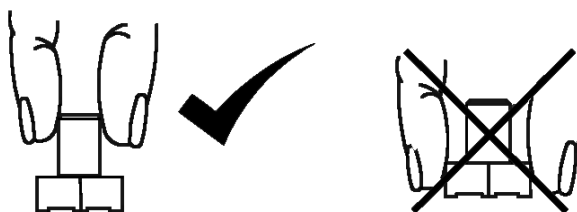

Figure 13 Handling the Diffuse Reflector
2. Handling the diffuse reflector only by its upper section, as shown in Figure 13, place it into the center of the sample dish.
1. Handling the diffuse reflector only by its upper section, as shown in Figure 13, place it into the center of the sample dish.